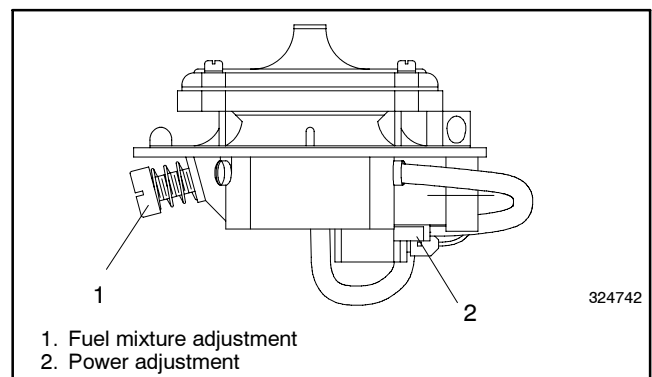

Figure 9 30-80 kW with Nolff NCA-225M and NCA-125M Style Fuel Mixers
- 5.2 **30-80 kW generator sets.** Nolff NCA-225M and NCA-125M style fuel mixers used on early versions of 30-60 kW 4.3 L and 5.7 L GM engines, 30-60 kW LP liquid withdrawal systems, and 80 kW 8.1 L GM engines. See Figure 9.
- 5.2.5 Adjust the fuel mixture adjustment (Figure 9) to obtain a full-load oxygen sensor voltage reading in the range specified in Figure 2.